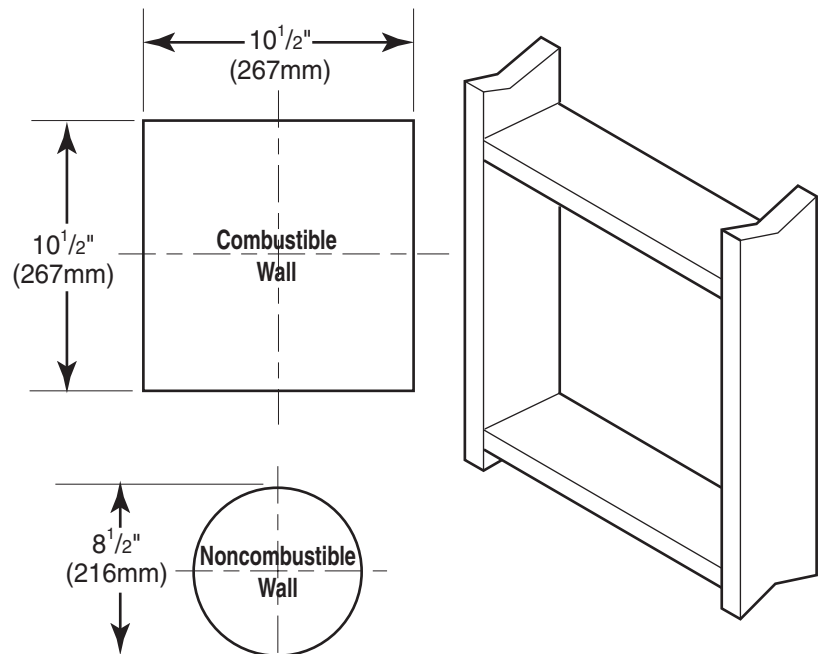

Figure 26 - Exterior Wall Framing Dimensions for 5"x8"
2. The center of the hole should line up with the center line of the horizontal rigid vent pipe end. Allow ¹/₄" minimum rise per foot. See Figure 26.